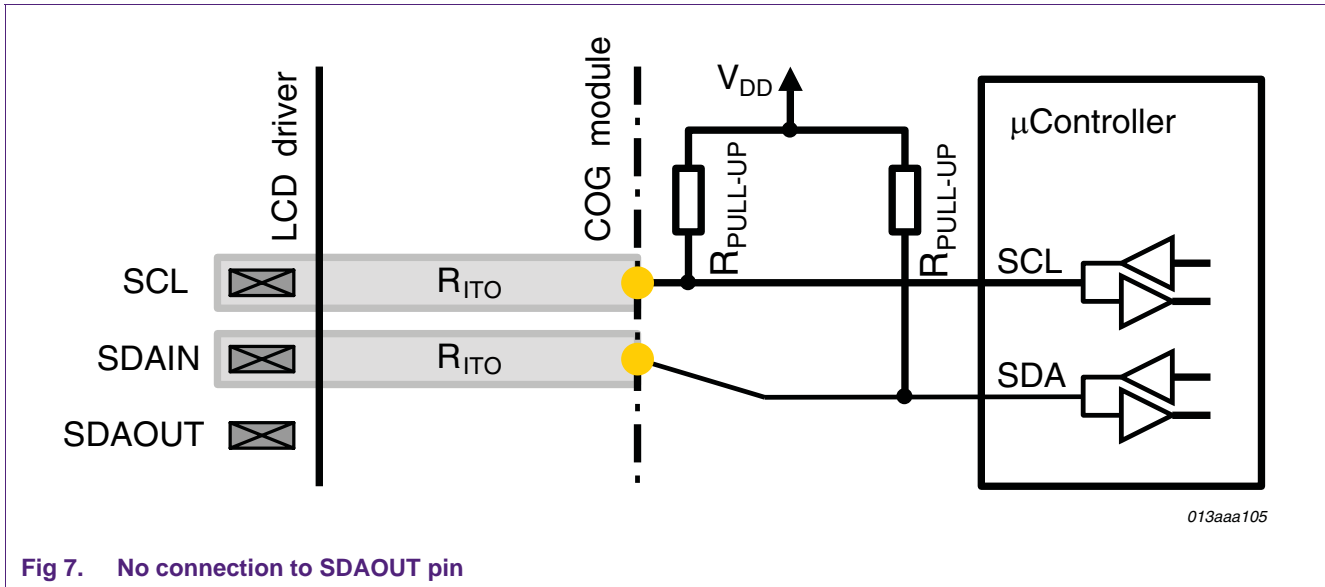

Fig 7. No connection to SDAOUT pin
- It is possible to implement the I2C protocol partially, in a way that ignores the ACKnowledge bit after each byte. In this case you can leave the SDAOUT unconnected (see Figure 7). Such a configuration may be desirable because it eliminates the common-mode noise that results from the ACKnowledge current flowing through the common resistance in the  $V_{SS}$  supply of the driver IC. Note however that in this case it is not possible to use any read-back function which is implemented in the LCD driver IC.